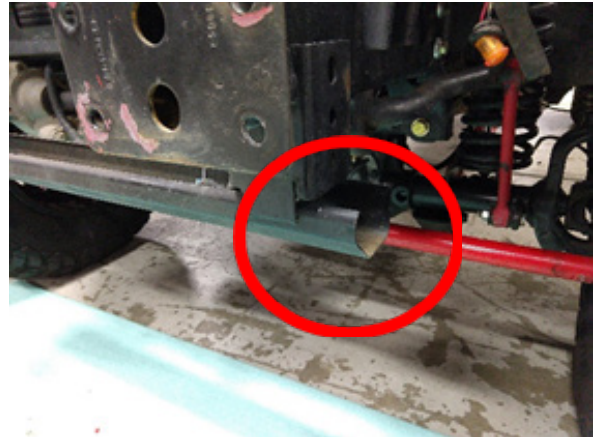

Figure 5
13. Using a metal cutting tool of your choice, trim the ends of the OEM underrun bar flush with the vertical sections. Coat the trimmed areas using black spray paint prevent rust. (Figure 5,6)